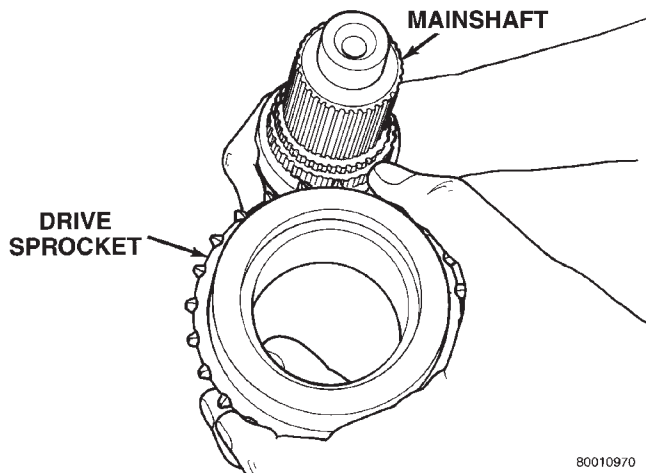

Fig. 41 Drive Sprocket Removal
- (3) Slide drive sprocket off mainshaft (Fig. 41).